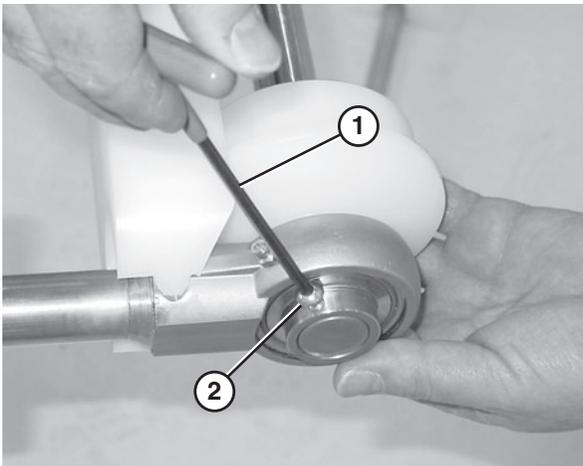

Figure 79
4. Use a hex wrench (**Figure 79, item 1**) to loosen the bearing shaft assembly fasteners (**Figure 79, item 2**).